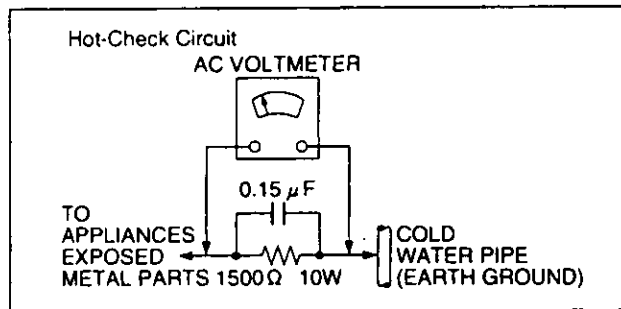

Figure 1
LEAKAGE CURRENT HOT CHECK (See Figure 1)
2. Connect a $1.5k\Omega$, $10W$ resistor, in parallel with a $0.15\mu F$ capacitor, between each exposed metallic part on the set on a good earth ground such as a water pipe, as shown in Figure 1.